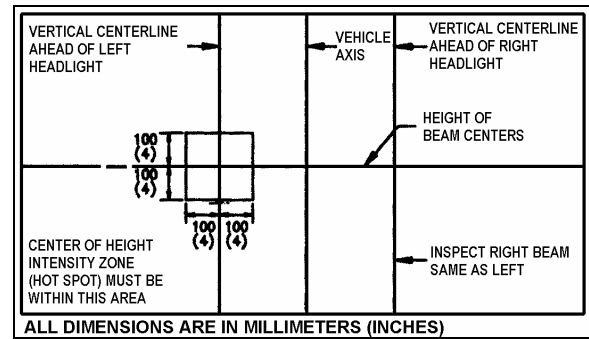

FIGURE 32: AIM INSPECTION LIMITS FOR UPPER-BEAM HEADLIGHTS 06505
7. The inspection limits for high-beam headlights shall be with the center of the high-intensity zone from 10 cm (4 in) up to 10 cm (4 in) down; and, from 10 cm (4 in) left to 10 cm (4 in) right on a screen at 7.6 m (25 ft) (Fig.32).